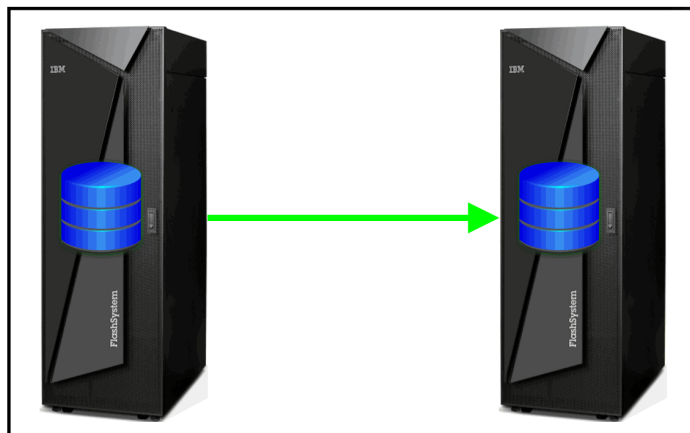

Figure 3-1 One-to-one remote mirror configuration
The most typical remote mirroring configuration is a one-to-one relationship between a local system (production system) and a remote system (disaster recovery system), as shown in Figure 3-1. This configuration is usually implemented when there is a single production site and a single disaster recovery (DR) site.